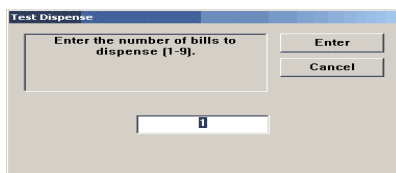

Figure 9. Enter # of notes.
10. Open the control panel and apply AC power to the ATM by pushing the AC power switch to the ON (1) position.
- c. Select the **Test Dispense** option. Select either individual cassettes that are installed (“A”, “B”, “C”, or “D”) or “ALL CASSETTES”. A prompt appears asking how many notes to dispense. (Figure 9) The Test Dispense operation will start.